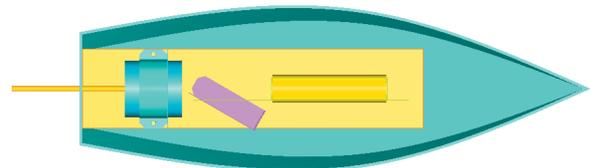

Fig. 51
-30 for Rotation Angle and click OK, **Fig. 51**.